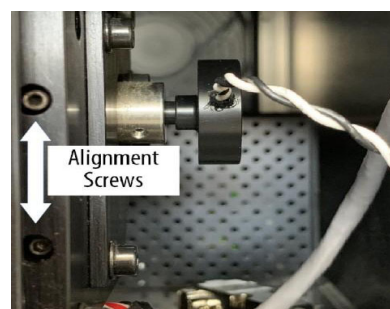

Figure 3. Adjust the Screws and Lamp focus to maximize the signal.
- Use the 2.0 mm Ball Driver from the KinExA Accessories Kit to manipulate the Alignment Screws located to the left of the circular Lamp Housing (**Figure 3**) until the least amount of light appears around the black pinhole (see **Figure 4**). The upper Alignment Screw provides horizontal alignment and the lower Alignment Screw provides vertical alignment.